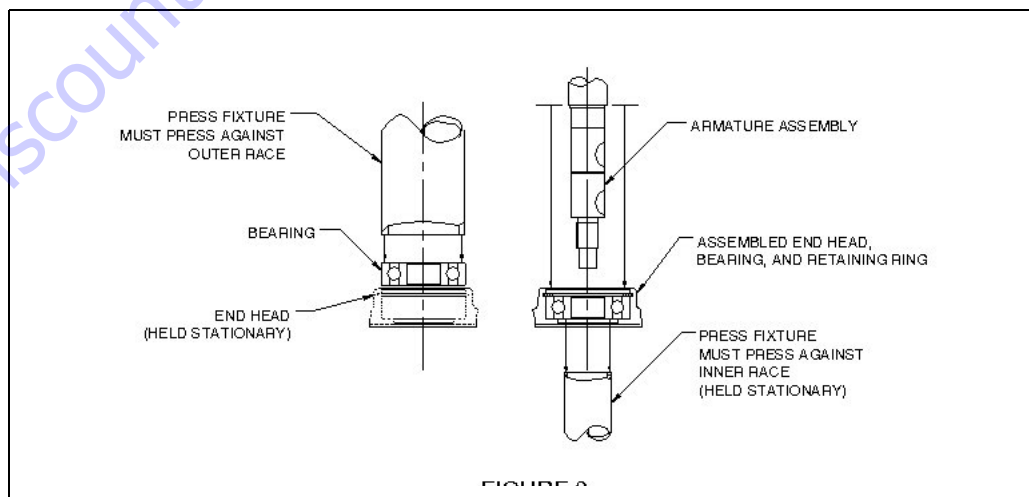

Figure 4-9. Bearing Replacement Procedure
2. After the motor has been disassembled, it is recommended that new bearings be installed because bearings may have been damaged during removal. Although the bearings may appear and feel good, the bearing races could be "brinelled" (*races or balls deformed*) and may exhibit noise and vibration problems or fail within a relatively short period of service. Press a new bearing into the commutator end head, pressing on the outer race only. (See Figure 4-9.) Replace the snap ring (6) in the snap ring groove.
3. Press the armature (2) commutator end into the commutator end head and bearing assembly, carefully supporting the inner-race of the bearing. (See Figure 4-9.).
4. Carefully release the brush springs (4) allowing the brushes to contact the commutator. Make sure brush shunts do not interfere with spring movement.
5. Assemble the commutator end head to the frame and field assembly (1) and tighten the screws to 120-140 in-lb [13.6-15.8 N-m]. Make sure to align the field connection with the notch in the commutator end head. Seal wires where they exit from commutator end head with a small amount of RTV Silicone Sealant.
6. Align wires from brake assembly (11) into notch in friction disc (10). Install both items onto shaft of motor